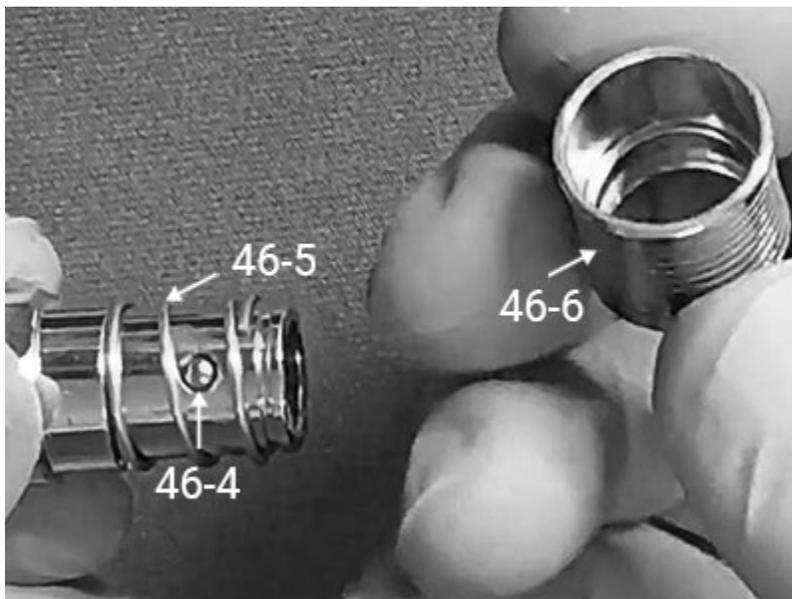

Fig. 61
2. Return the Ball Bearings (46-4) to the Body by first adding a small dot of Tribolube 71 to each hole as a temporary adhesive, and then inserting each Ball Bearing. Add the Collar Spring (46-5). Place the Collar (46-6) with the thin smooth bore first - Fig. 61. Place a new C-Clip (47-3*) in its groove.